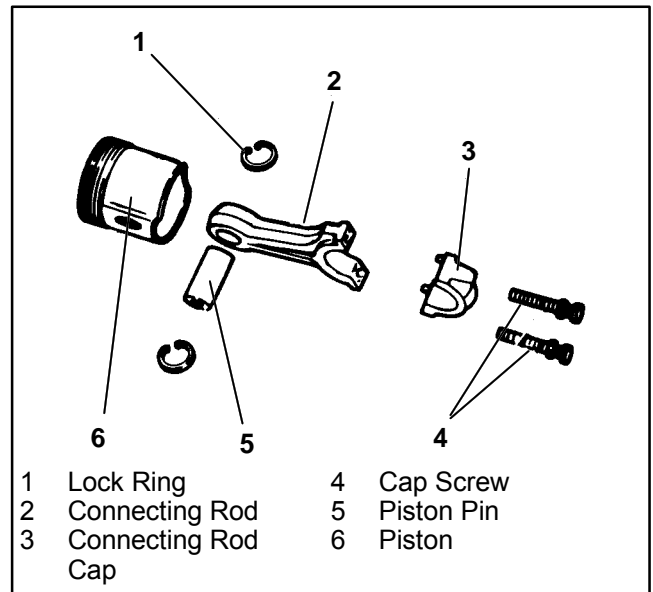

Figure 3-13. Connecting Rod, Piston, and Pin
b. Match mark and disassemble pistons, pins, connecting rods, and caps. (See Figure 3-13)